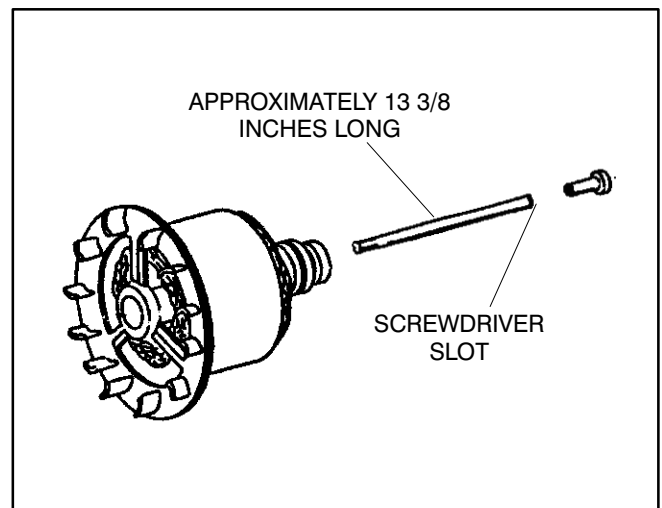

FIGURE 8-7. ROTOR REMOVAL TOOL
2. Thread in the rotor removal rod (shorten rotor through bolt, Figure 8-7) and turn it with a screwdriver until it bottoms in crankshaft. Thread in and tighten a 9/16-12 x 1-3/4 inch bolt against the rod until the rotor breaks loose from the crankshaft.